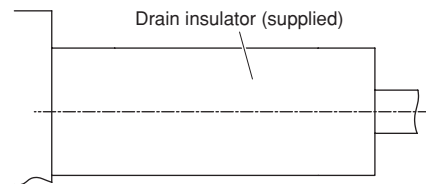

Fig. 3-40
(2) After checking the drainage, wrap the supplied packing and drain pipe insulator around the pipe, then secure it with the supplied clamps. (Fig. 3-40)